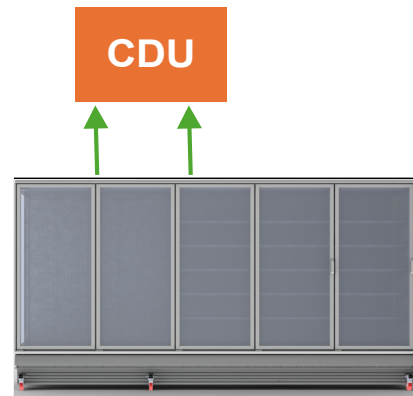
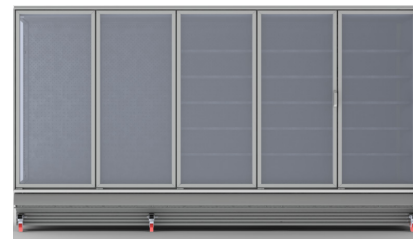

Fig. 20 Remove CDU
Fig. 21 Ready for doorway
7. Using a two-person team and the four corners of drain pan as lift points, gently lift condensing unit from the top of the case (Fig. 20) and place in a safe location for later install. Case is ready for doorway entry (Fig. 21).